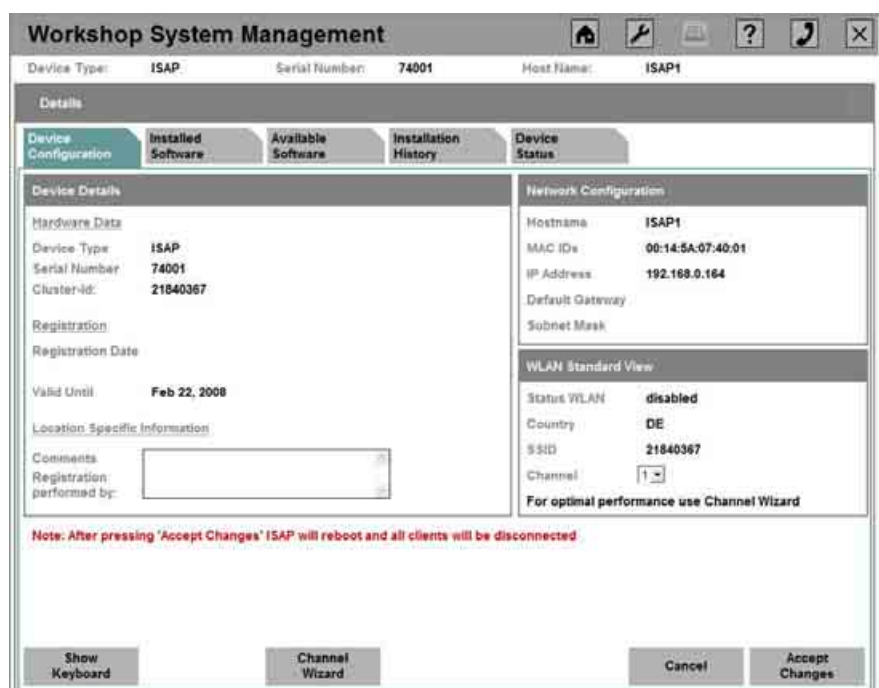

Fig. 77: Editing the device configuration
- When the "Edit Configuration" button is clicked, the user is prompted to enter the WSM administrator password, which activates the configuration mode. This mode enables editing of the "Comments" field and selection of a suitable WLAN radio channel ("Channel" field) (see Fig. 77).